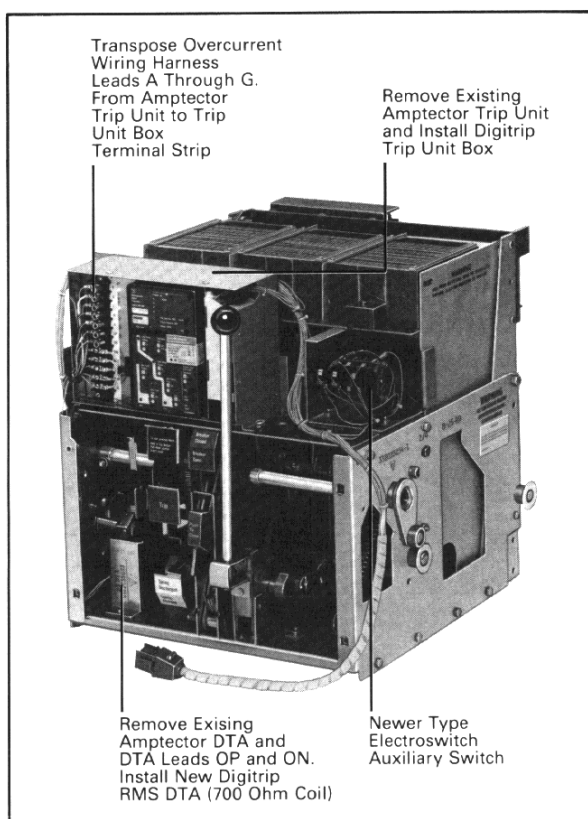
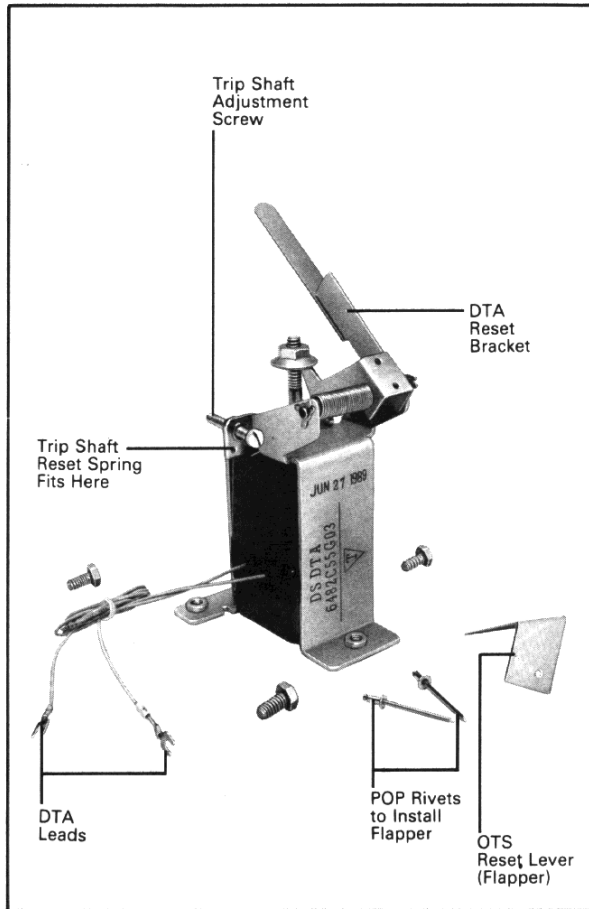

Fig. 9-1. DS Breaker Retrofit Kit Installation (Front Cover Removed)
Fig. 9-3. Direct Trip Actuator (DTA)
4. Take off the breaker faceplate by removing the four (4) screws (6 screws for DS-632 and 840) that hold it to the breaker. This will provide access to the breaker front, similar as shown in Fig. 9-1.
2. Refer to Fig. 9-1. Cut the ring tongue terminals off the ends of existing terminal leads OP and ON and remove them from the wire bundle going to the Direct Trip Actuator (DTA). Later, these leads will be replaced with new leads supplied with the new Digitrip RMS DTA.
1. Refer to Fig. 9-1. Mount the Trip Unit Box, Fig. 3-4, on the breaker in the same location as the Amptector Trip Unit using the two (2) existing screws.
- b. If the breaker is equipped with an Electroswitch type auxiliary switch, Fig. 9-1, cut off the ring-tongue terminals from the ends of AUX1 and AUX2. Strip and crimp on 2 slip-on terminals to the leads and slide them over the switch terminals. Install the auxiliary switch cover.
1. Test by operating the Direct Trip Actuator (DTA), Fig. 9-3, several times before installing it. Alternately, pull back on the DTA reset lever to reset the DTA, then trip it by applying 24 Vdc to the DTA terminal leads. Be sure to observe the proper polarity to the positive lead.
2. Locate the existing Amptector type DTA on the breaker, Fig. 9-1. Find the trip shaft reset spring connecting the DTA frame to the breaker trip shaft (location shown in Fig. 9-3). Remove the end of the spring connected to the DTA. DO NOT LOOSE the spring.
5. For DS breakers equipped with OTS switches, the OTS reset lever (flapper), Figs. 9-3, must be installed on the DTA reset bracket with the two pop rivets provided. Fig. 9-4 shows the flapper installed on the DTA.
The trip shaft adjustment screw, Fig. 9-3, on the DTA frame must be adjusted to provide the correct breaker trip latch overlap. This procedure is as follows: